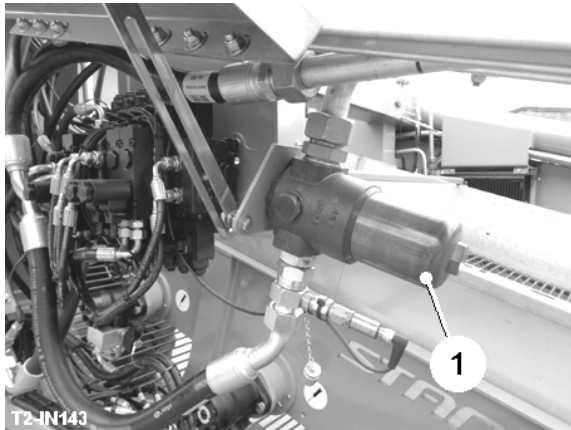
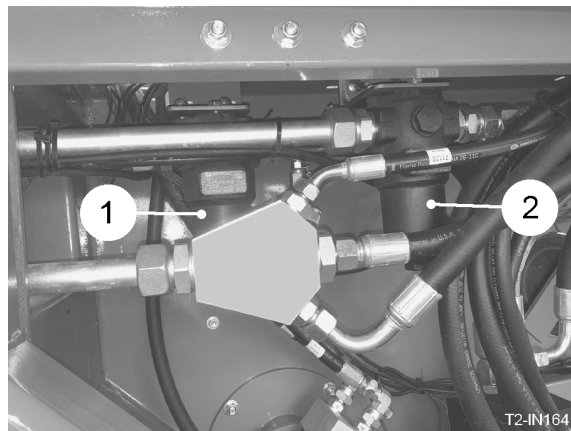

Fig 37
Fig 40
The pressure filter elements (item 1, fig. 37, 38, & 39) and (item 1 & 2, fig 40) should be replaced after the first 50 hours running time and then every 500 hours or annually thereafter.
2. In the case of the auxiliary circuit pressure filter (item 1, fig. 37), operate the spool valve feeding the harvester to release any residual pressure and then disconnect the feed hose from the tractor.